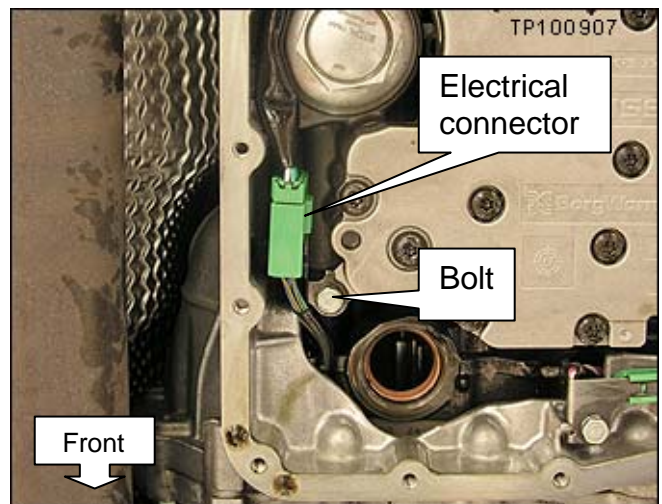

Figure 7
10. Remove the bracket bolt shown in Figure 7.
11. Disconnect the electrical connector shown in Figure 7.